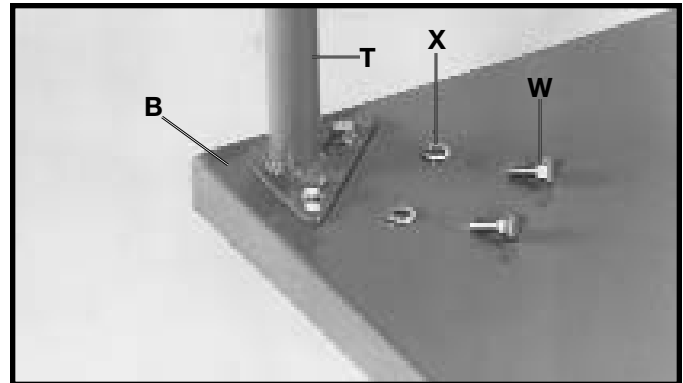
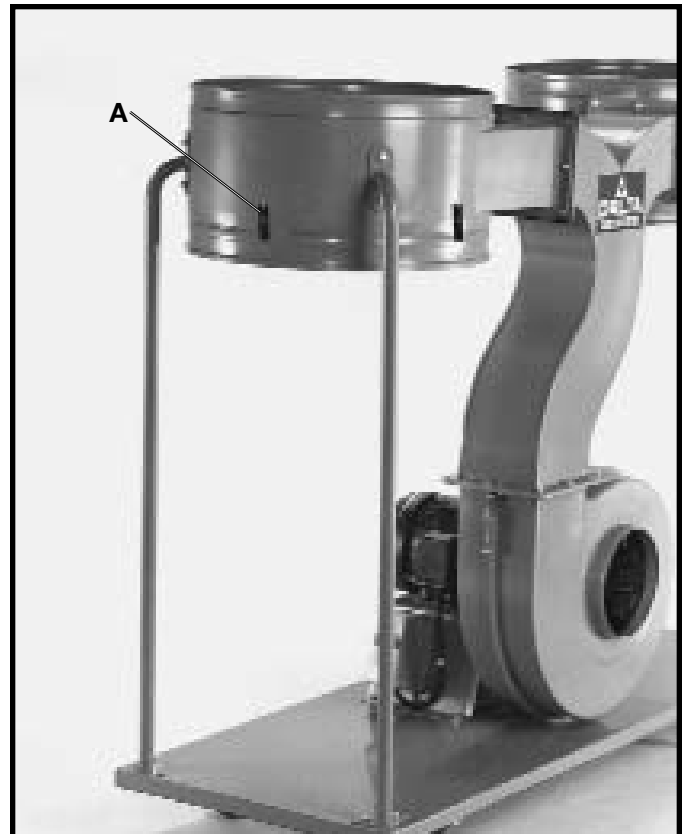

Fig. 19
Fig. 20
12. Fasten the bottom of drum support (T) Fig. 19, at one corner of base (B). Place a lockwasher (X) onto a hex head screw (W) and insert the hex head screw through drum support arm (T) and thread into base (B). Fasten the remaining drum supports Fig. 20, to the other drum and base in the same manner.
14. Attach the lower dust bag retaining clip (A) Fig. 20, to the dust collector drum. Align the two holes in the retaining clip (A) Fig. 20, with the two holes in the drum. Insert a 1/4-20x5/8" hex head screw through the holes in the retaining clip and the holes in the drum. Place a 1/4" flat washer onto the screws, and thread 1/4-20 hex nut on the screws and tighten securely. Repeat this process for the three remaining sides of the drum and the other drum.